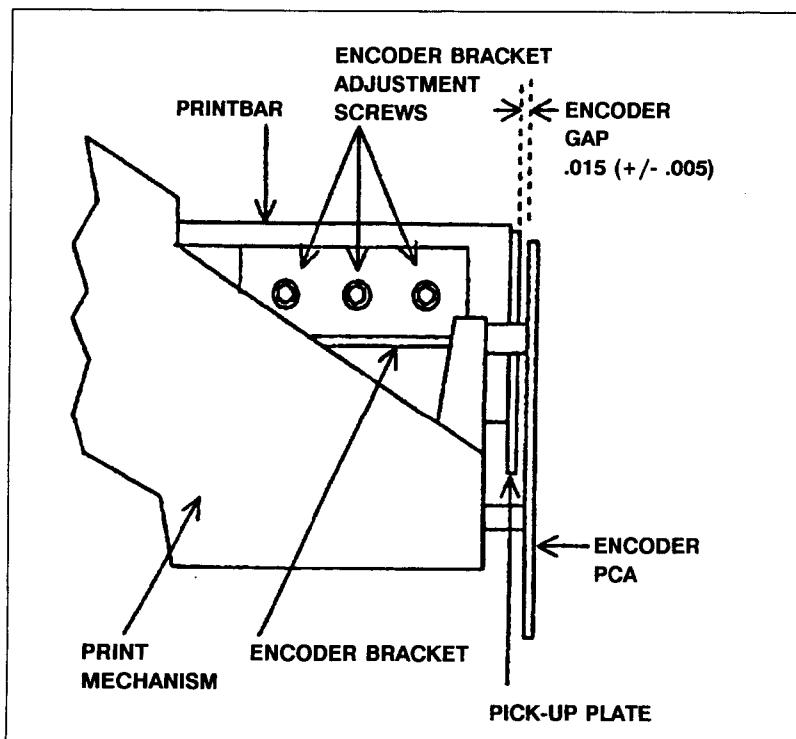

Figure 5-3. Encoder Adjustment
The encoder gap is the space between the Pick-Up PCA which moves with the print bar assembly, and the Encoder PCA which is mounted on the print mechanism casting. The gap should be .015 +/- .005 inches. The gap should be adjusted each time the print bar assembly, Encoder PCA or the Pick-Up PCA is replaced. The printer weldment must be removed prior to adjusting the encoder gap. This allows access to the 3 pick-up bracket adjustment screws (see Figure 5-3).
- b. Loosen the three pozidrive screws or 3mm socketed cap screws which support encoder pick-up plate bracket (see Figure 5-3).